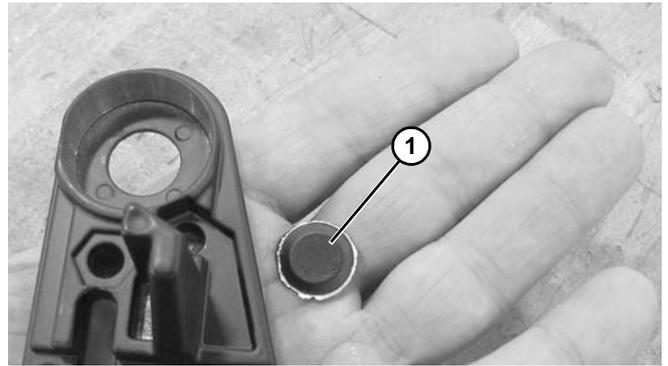

**Figure 68**
2. Set tail plate (**Figure 68, item 1**) flat side down over washer (**Figure 68, item 2**) or hole in workbench that has a minimum diameter of 16 mm.